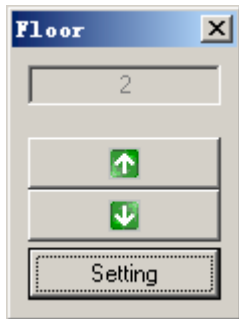

Figure 9-4 Direction button
- 4) Switch the stories by clicking the direction button ↓ or ↑, as shown in Figure 9-4.